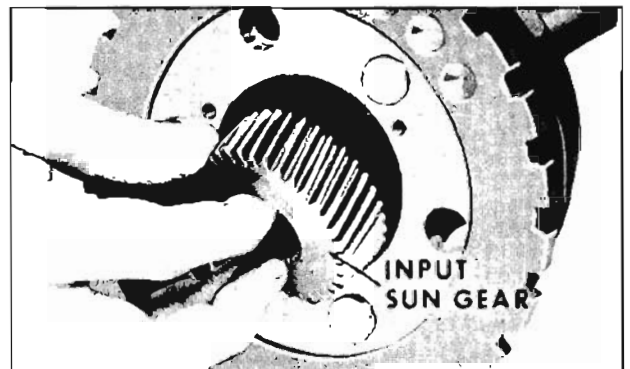

Fig. 6-401 Installing Input Sun Gear
7. Install input sun gear into planet carrier. (Fig. 6-401)